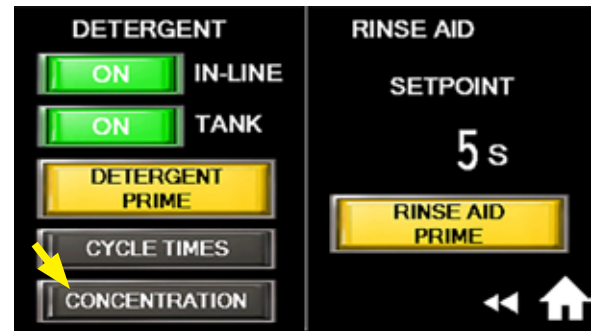

Fig. 38 - Detergent Concentration
SET DETERGENT CONCENTRATION -- Applies to Tank or Inline Sensor Equipped Machines Only (Fig. 38):
1. Set-up by pressing the "CONCENTRATION" button, (Fig. 38), then set the needed values with reference to Page 14, Graph 1 or Graph 2, with regard to titration results. The concentration display indicates the sensor that is ON.